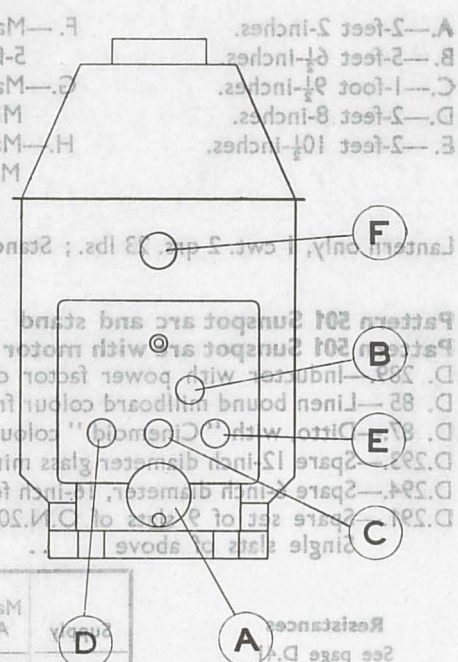

Fig. 3
A. Carbon Feed.—This consists of a handwheel (H) on each side at the front of the lamphouse (Fig. 1) and a handwheel (A) at the back (Fig. 3) which may be pulled out to disengage the drive between front and rear carbons, so that they may be adjusted independently. When the drive between carbons is disconnected, the front carbon is controlled by the front handwheels, and the rear carbon by the rear handwheel.
C. This is a screw motion operated by a knurled moulded handwheel (Fig. 3) and permits raising and lowering of the rear carbon. A return spring prevents any shake or backlash.
D. and E. Mirror adjustment (Fig. 3).—**D.** Horizontal axial motion is transmitted by means of hand wheel operated screwed shaft.
F. Inspection lamp control (Fig. 3).—Consisting of 5-amp. tumbler switch.